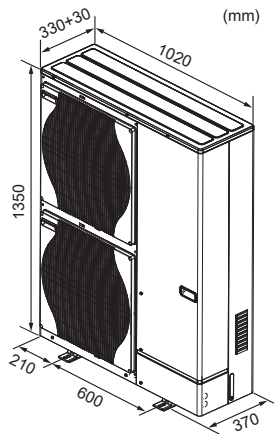

Fig. 1-2
1.2. Outline dimensions (Outdoor unit) (Fig. 1-2)